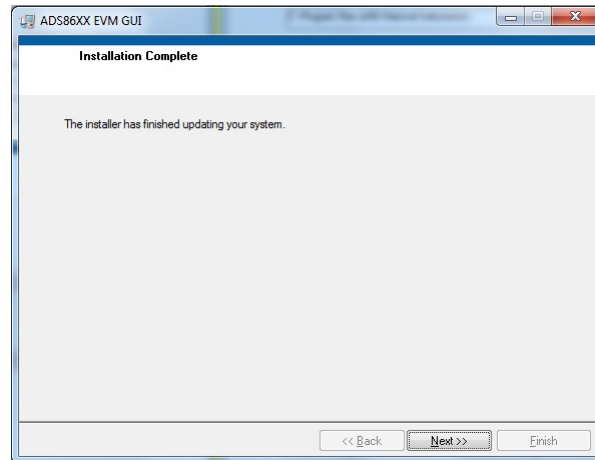

Figure 12. Progress Bar Screen
- A progress bar appears, as shown in Figure 12; this step takes a few minutes.